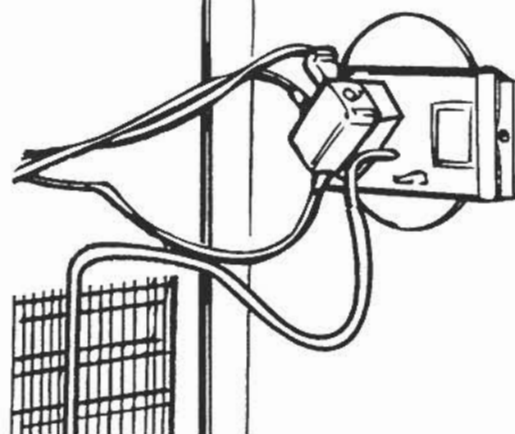

Figure 2-57. Refrigerator Control Routing
- Refrigerator Control** - The cap tube of the refrigerator control is routed through a channel formed by the evaporator fins. Pull the control bulb from the channel (Figure 2-57).